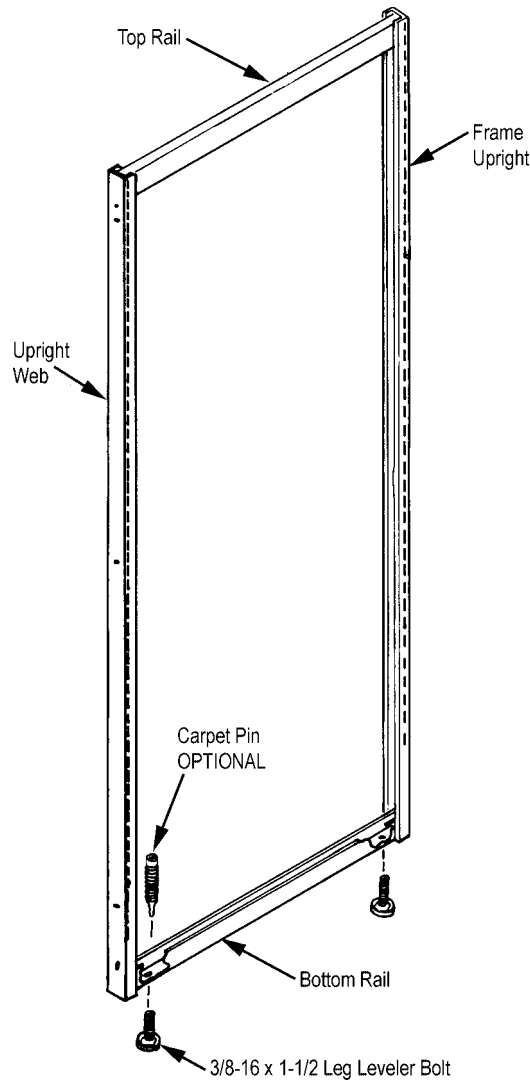

FIGURE 2
2. Screw leg levelers into weld nuts in bottom rail of each welded frame as shown in Figures 2, 3 and 8. Screw leg levelers all the way in.